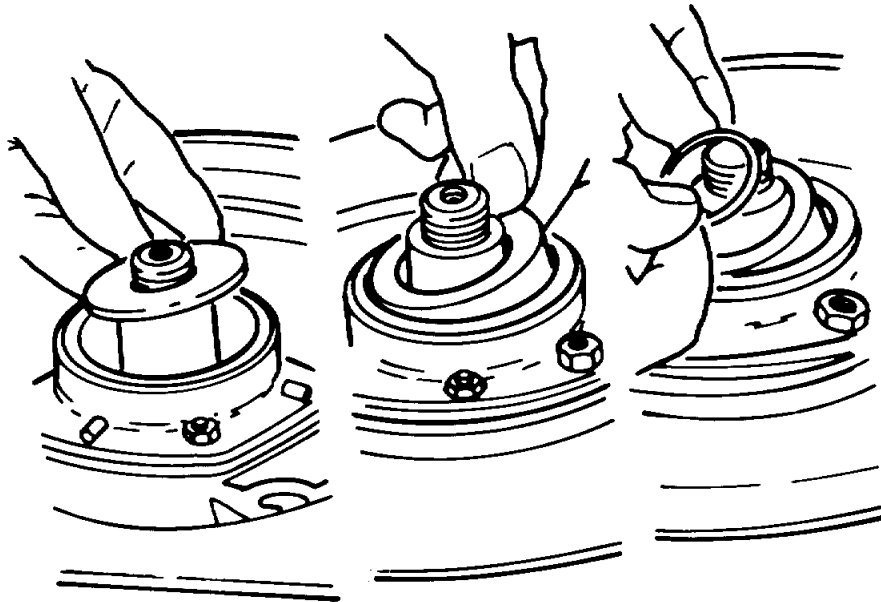

Figure A-30. Crankshaft
x. **Crankshaft.** Pull out the crankshaft from the crankcase, being careful not to drag the crankshaft gear on the crankcase main bearing. (Figure A-30.)